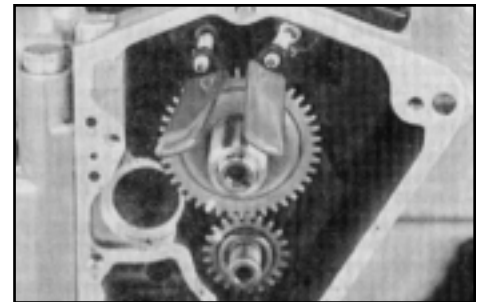

Fig. 4
6. Insert Crane installation tools through slots of the tappet guide and into the tappets, just above the rollers. Hold tappets up as high as possible, being sure that the pushrod ends are in their tappet seats and rocker arms. Now with an allen wrench, turn the adjustable clamping screw in to lock the tools onto the tappet blocks. Again, be sure pushrods are centered and tappets are up as high as possible in guides (Fig. 4 & 5).